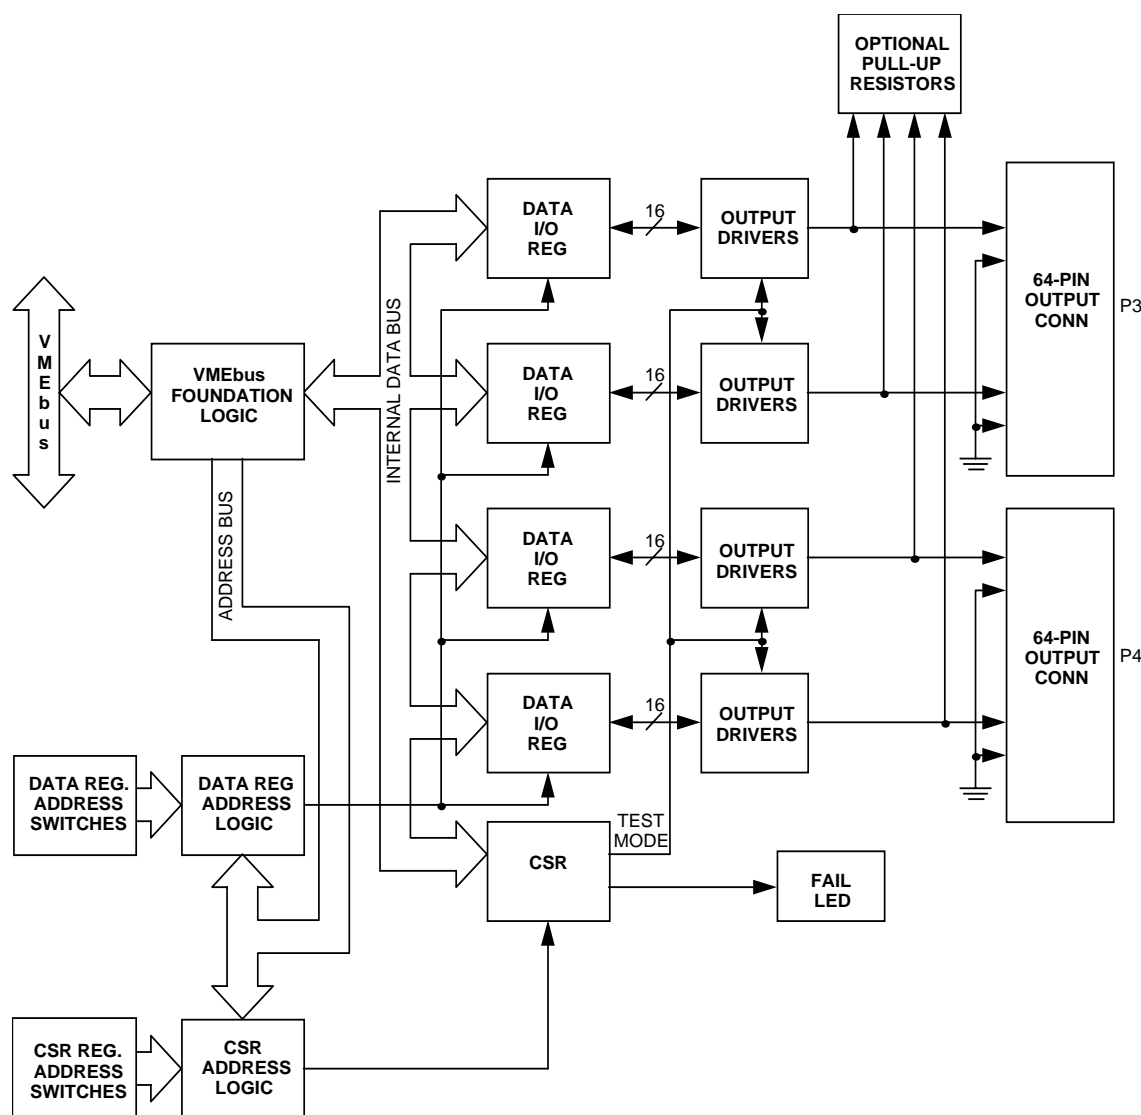

Figure 1-1 Functional Block Diagram
The design of the VMIVME-2120 board as shown in the functional block diagram in Figure 1-1 on page 19 consists primarily of four sections which are:
The VMIVME-2120 is designed to support data transfers in supervisory or nonprivileged short I/O memory space. A jumper is provided as shown in Figure 1-1 (Address Selection Block Diagram) to allow user selection of either I/O access type. The jumper (JA) is shown on logic diagram 141-002120-000 in Appendix A. The VMIVME-2120 is factory configured (jumper JA not installed) to respond to short supervisory I/O access.